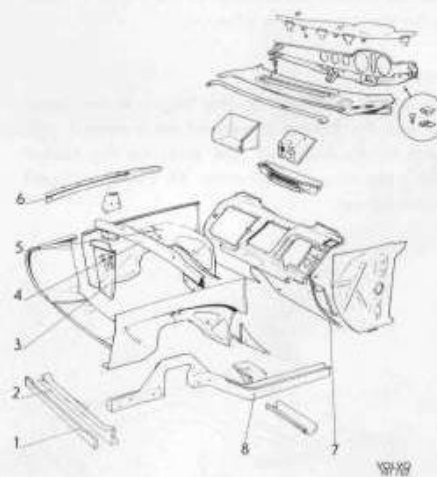

Fig. 2. Scuttle.
The floor section (Fig. 1) consists of the front and rear floor plates (1 and 3) and inner cantrail (5), front and rear cross-members (8 and 6), tunnel (10) and scuttle (Fig. 2). The floor plates are welded to the rear seat support.
There is a flanged hole in the rear floor plate for attaching the fuel tank, the upper part of which forms part of the floor in the luggage compartment. The scuttle (Fig. 2) consists of the bulkhead (7), wheel arches (5), front upper cross-member (4) and side plate (3) as well as lower cross-members (1 and 2). The bulkhead forms the front transverse wall of the body and has welded end plates. Two front side members (8) project from the front floor section. They are joined together at the front by means of a cross-member (2) and are attached at the rear to the front cross-member under the front seats. Two side members (6) project from the upper corner between the bulkhead and front pillar. They are spot-welded to the front pillar, front side plate and wheel arch plates. The front axle member and bumper support bars are attached to the side members. The roof section consists of a number of plates. The roof plates form the upper part of the scuttle, the windscreen opening and the actual roof.